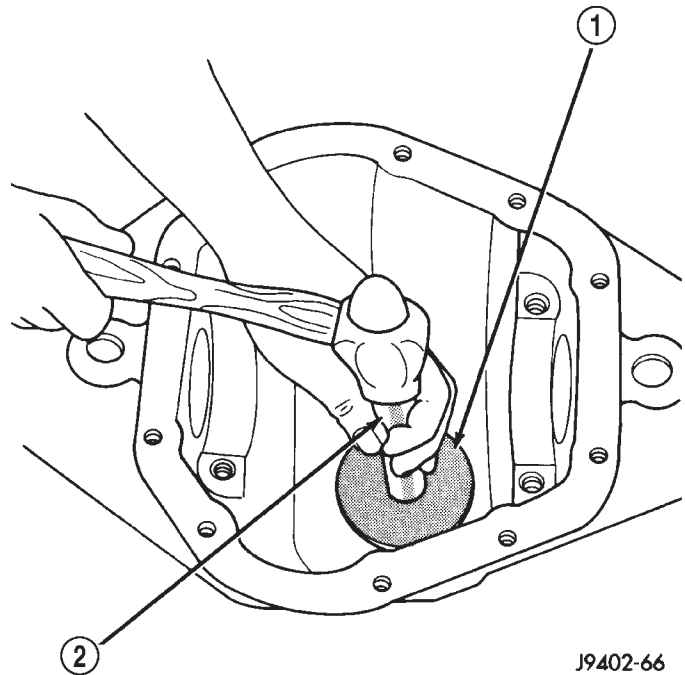

Fig. 40 Pinion Rear Bearing Cup Installation
(1) Apply Mopar® Door Ease, or equivalent, stick lubricant to outside surface of bearing cup.
(2) Install the pinion rear bearing cup with Installer D-146 and Driver Handle C-4171 (Fig. 40). Ensure cup is correctly seated.